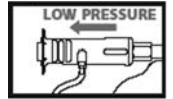

Figure 13
1. Push out on black nozzle to ensure lance is in low pressure mode (Figure 13).